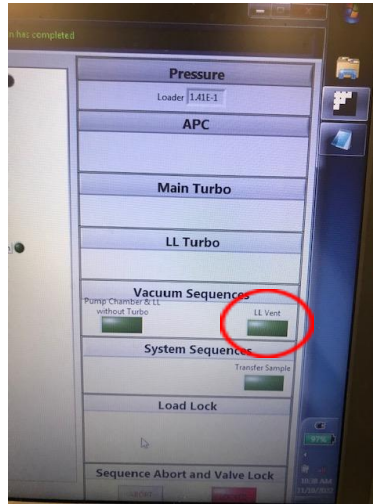

Figure 6: Load Lock Vent Button
9.5.4. Vent load lock by clicking “LL Vent”. **Figure 6.**